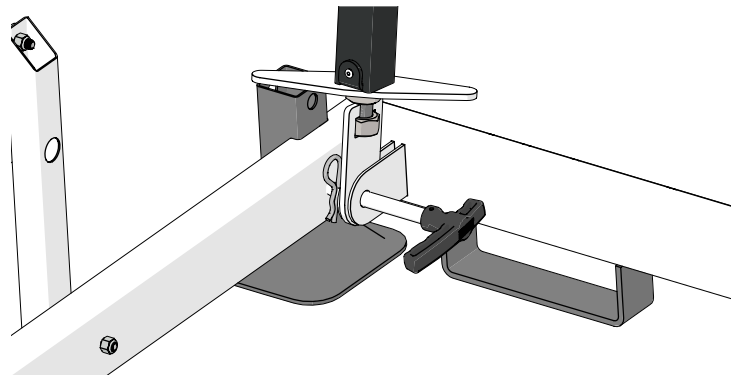

Fig. 15-2
- Secure the pin by attaching the cotter pin to extended pull pin end as shown in Fig. 15-2.
- It may be necessary to adjust the brace up or down by turning the tension handle located at the bottom of the stabilizer post see Fig. 15-2.